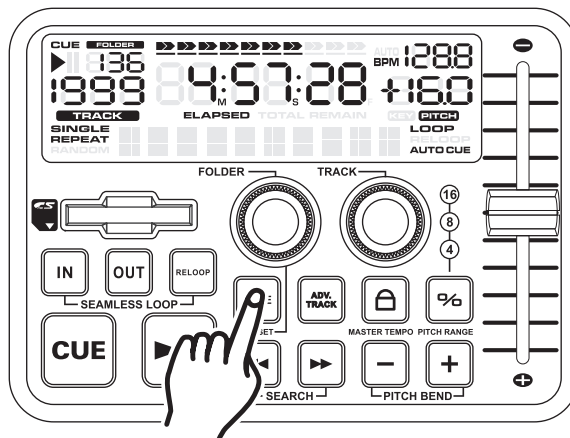

Figure 14
12. CHANGING THE TIME DISPLAY (47)\TIME BAR (41):
DURING NORMAL PLAYBACK, pressing the **TIME BUTTON** (33), will change the time display information (41 & 47) in the **LCD** (10) see figure 14. The following is a break down of the time settings and their definitions:
- 1) **ELAPSED** - This describes the time in the **LCD** (10) as the current **TRACKS** Elapsed running time.
- 2) **REMAIN** (49) - This describes the time in the **LCD** (10) as the current **TRACKS** remaining running time.